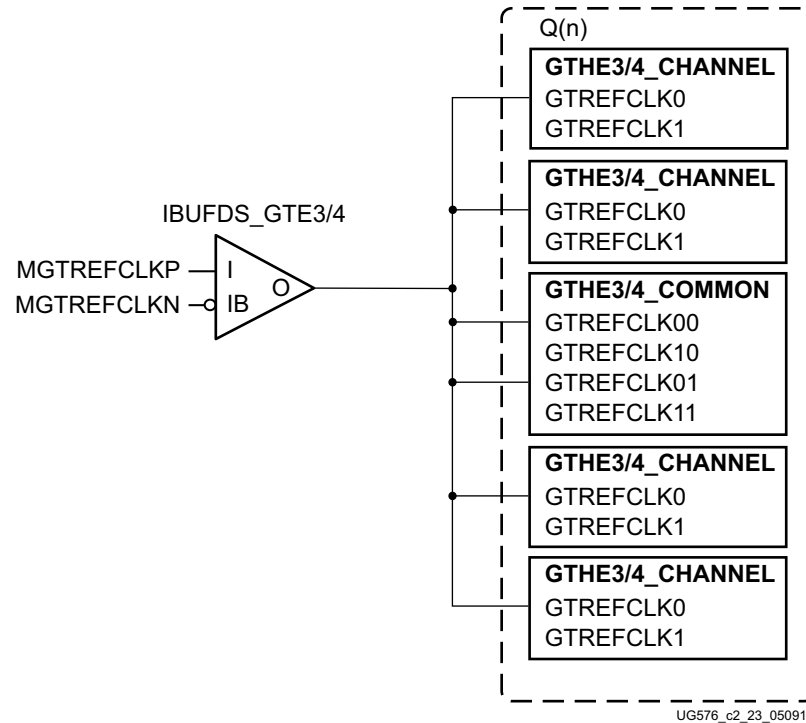

Figure 2-6: Single External Reference Clock with Multiple Transceivers in a Single Quad
Each Quad has two dedicated differential reference clock input pins (MGTREFCLK0[P/N] or MGTREFCLK1[P/N]) that can be connected to the external clock sources. In a single external reference clock use model, an IBUFDS_GTE3/4 must be instantiated to use one of the dedicated differential reference clock sources. Figure 2-6 shows a single external reference clock connected to multiple transceivers within a single Quad. The user design connects the IBUFDS_GTE3/4 output (O) to the GTREFCLK0 ports of the GTHE3/4_COMMON and GTHE3/4_CHANNEL primitives for the GTH transceiver.
Note: The IBUFDS_GTE3/4 diagram in Figure 2-6 is a simplification. The output port ODIV2 is left floating, and the input port CEB is set to logic 0.